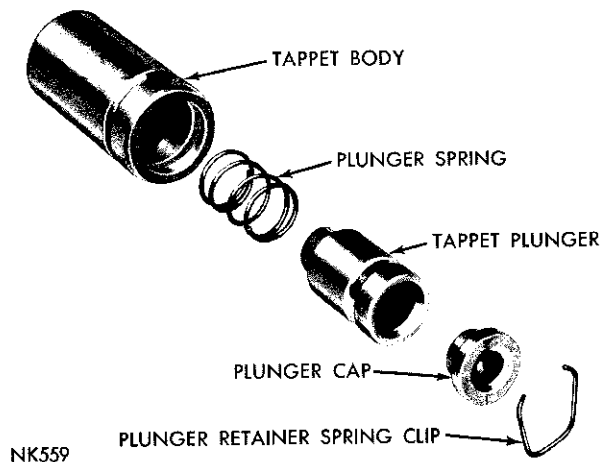

Fig. 17—Hydraulic Tappet Assembly (Disassembled View)
Disassembly (Fig. 17)
- (4) Assemble the tappets, as shown in Figure 17.